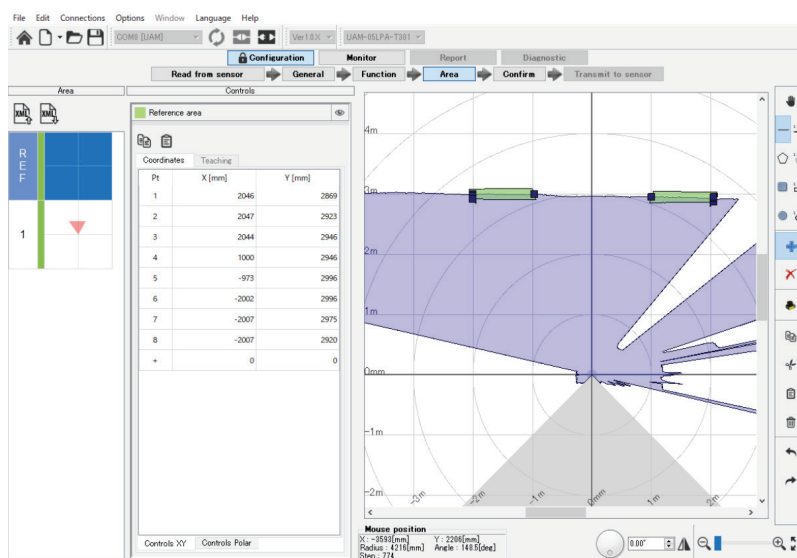

Figure 7-51 Reference region configuration example
- Main screen displays the configuration for reference region (Figure 7-51). First area on the preview indicated by “REF” represents the reference area.
For example, to monitor the sensor's displacement by referring the background, choose the line drawing tool and draw a line segment over the background by mouse drag and drop. Reference region with the \pm tolerance is generated on that location (Figure 7-51).